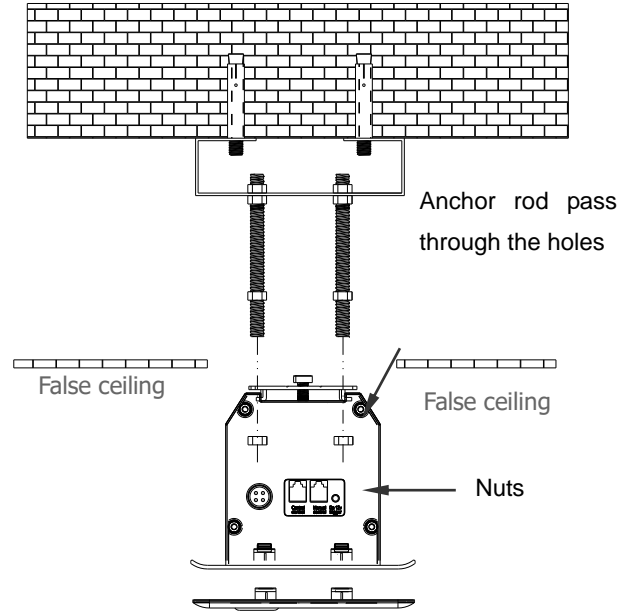

Fig.4
Step 4: Insert the projection screen into the ceiling opening, make sure 4 anchor rods pass through the holes on mounting bracket. Install a nut onto each end of anchor rod, avoiding the screen fall down from the false ceiling. (See Fig.4)